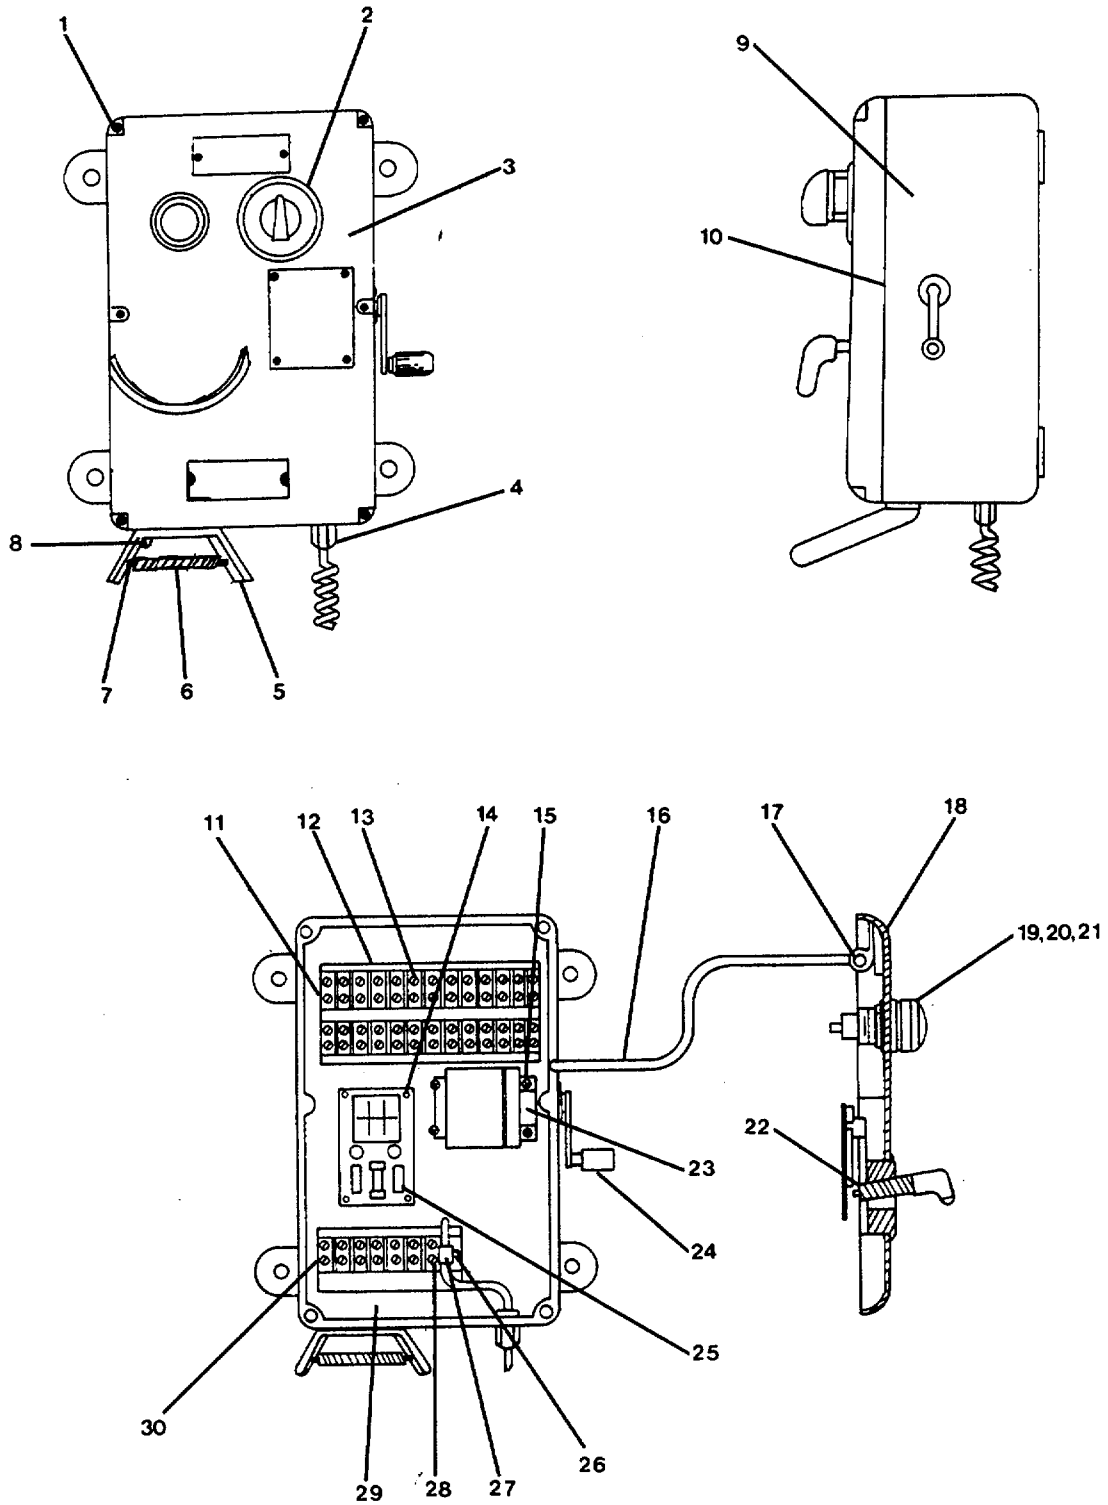

FIGURE 3-34. Sound Powered Telephone SELR (MOD)-8.
- f. Install manual control handle (7) and hand ringing generator (9).
- g. Install drive screw (14).
- h. Install telephone box (6). Remove tags and connect electrical leads.
- i. Install cotter pin (10), bracket spring (13), and headset bracket (11).
- j. Install self-locking screw (12).
- k. Install telephone selector switch (3). Remove tags and connect electrical leads.
- l. Install gasket (4) and telephone cover (2).
- m. Install self-locking screw (1).
**3-37. Repair Sound Powered Telephone SER (MOD)-8. (Figure 3-34)**